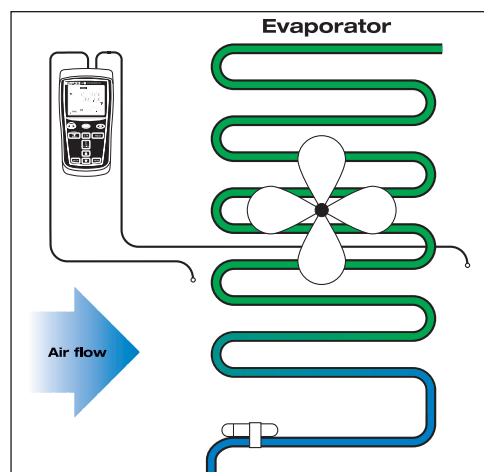

Figure 3. ΔT across coils. Record evaporator temperature differences as well as minimum/maximum temperatures with a digital thermometer.
3. Check for insufficient airflows across the evaporator using a digital thermometer. (see figure 3) Place a bead thermocouple on the discharge side of the coil and on the return side of the coil. Record the temperature difference on the air conditioning unit. Expect about 18 °F to 22 °F (10 °C to 12 °C) temperature difference. On refrigeration units expect about 10 °F to 15 °F (5 °C to 8.5 °C) temperature difference.